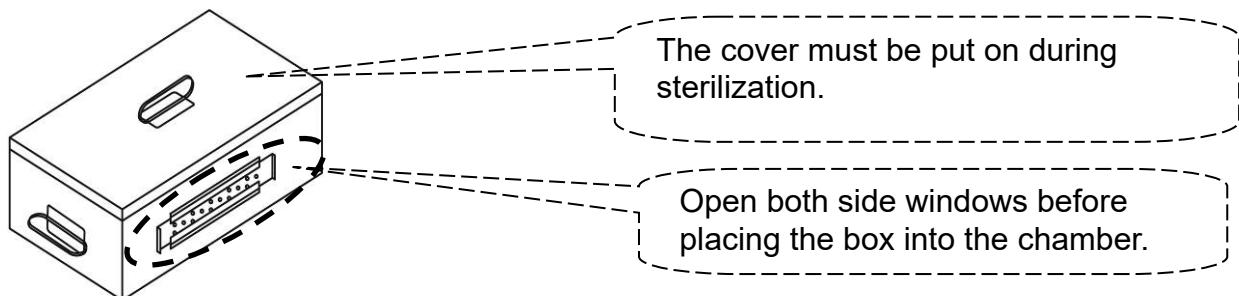

Figure 43
- E. Place the items to be sterilized and the sterilization indicator strips (or biological indicator) into the box as required. Remember to open both side windows before placing the box into the sterilizer as shown in Figure 43. If use the sterilization box.